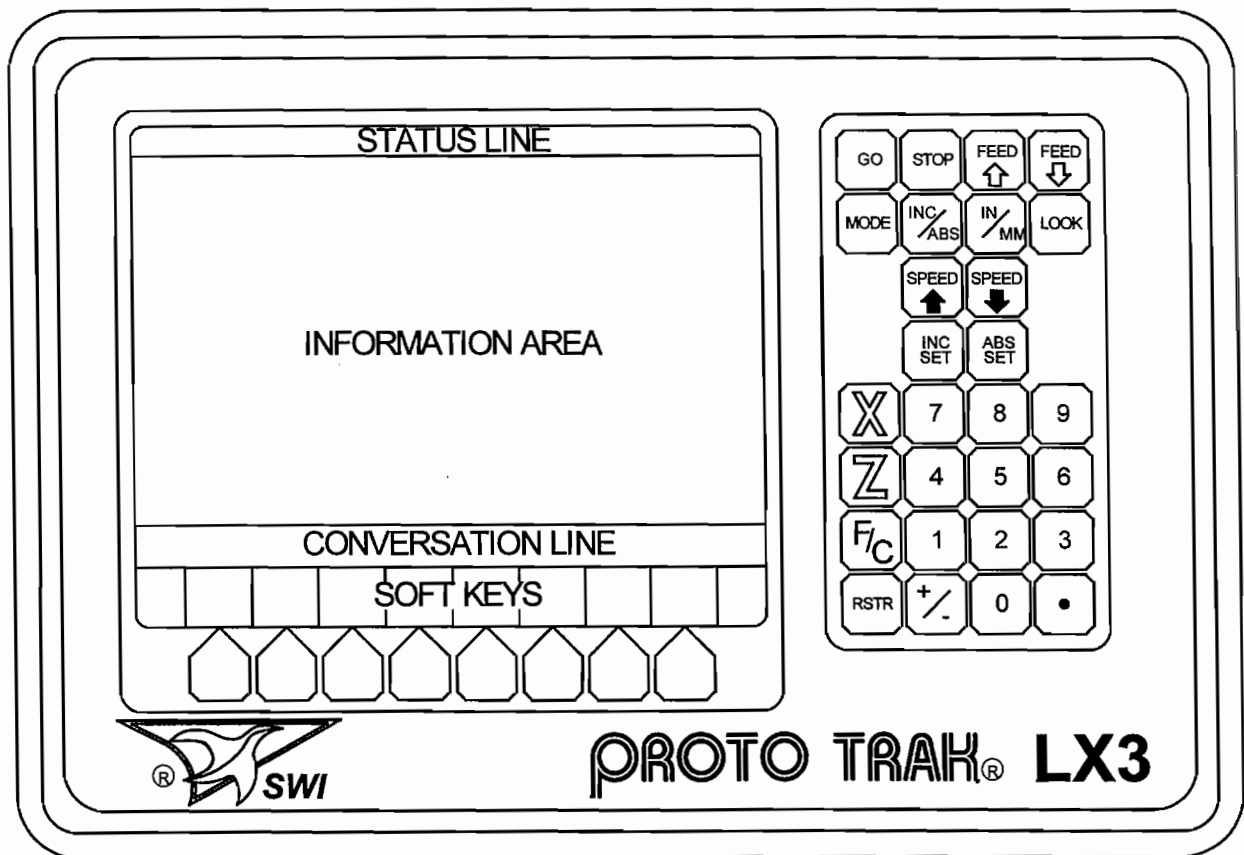

Figure 1
3.1 LX3 Keyboard (*Figure 1*)
3.3 LX3 CRT Screen (*Figure 1*)